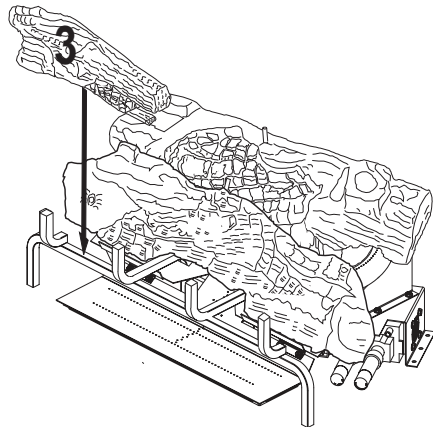

Figure 24 - Installing Log # 3
3. Place the front left log (#3) onto the base assembly between the middle log (#2) and the grate fingers. The back of the front left log (#3) will rest against the front of the middle log (#2). The notch at the end of the front left log (#3) will fit around the grate bar. See Figure 24.